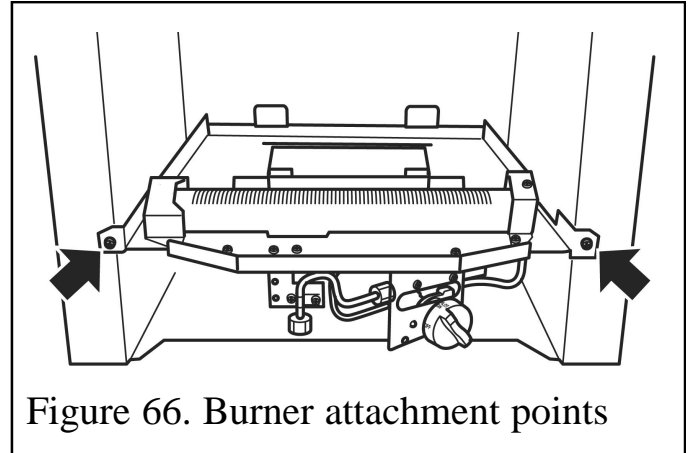

Figure 66. Burner attachment points
4. Detach the burner unit from the hotbox by removing two screws (See figure 66).